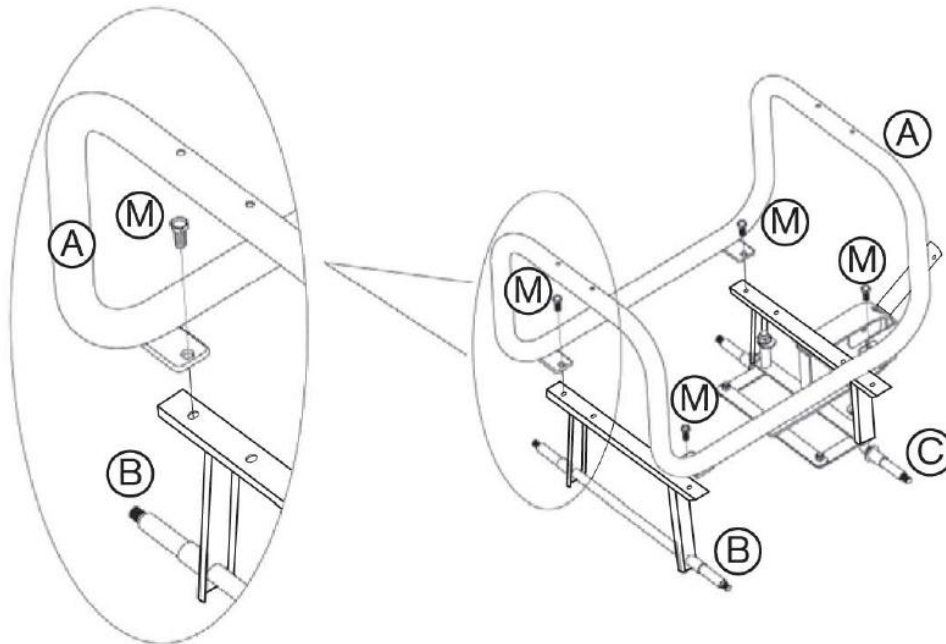

Figure 1
1. See Figure 1. Attach the rear bracket axle (B) to the U-shape frame (A) using two M10 x 20mm screws (M). Then, attach the front axle (C) to the frame (A) using two M10 x 20mm Screws (M).